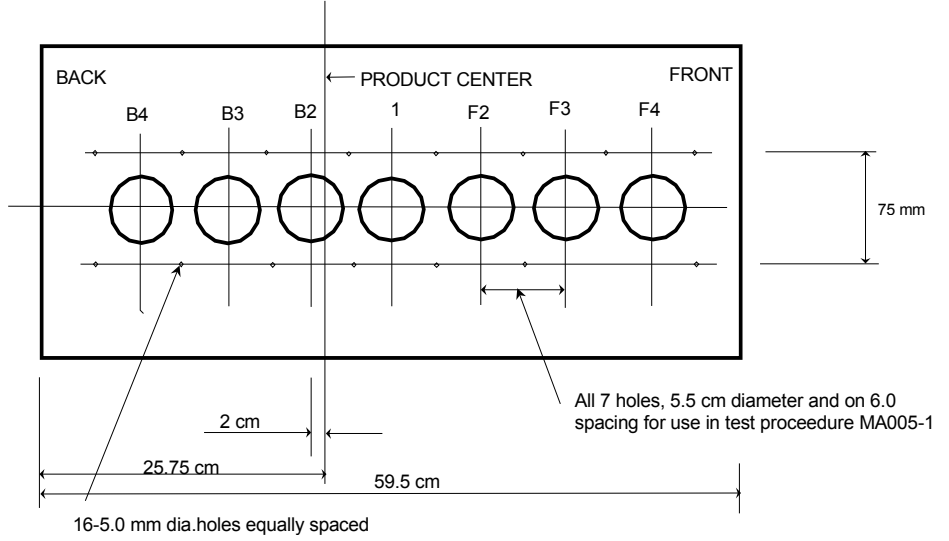

Figure 2
5. 5. Template for locating the sampling positions (figure 2)
- d. d. Place the template (see figure 2 on page 3) on the article and align the center of the product with the marking on the template that reads "product center". Outline each circle (20 cm² area) with a permanent marker and label each with the corresponding label on the template.